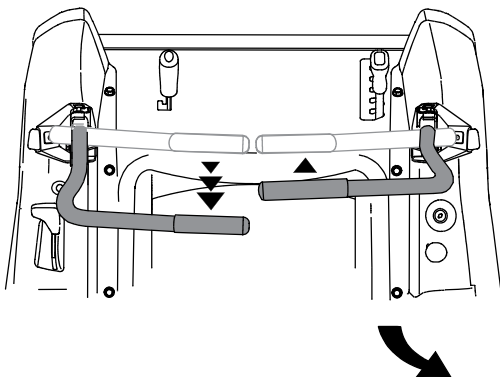

Figure 5-8
- To turn to the right while traveling in reverse, move the right drive control lever forward of the left lever. See Figure 5-8.